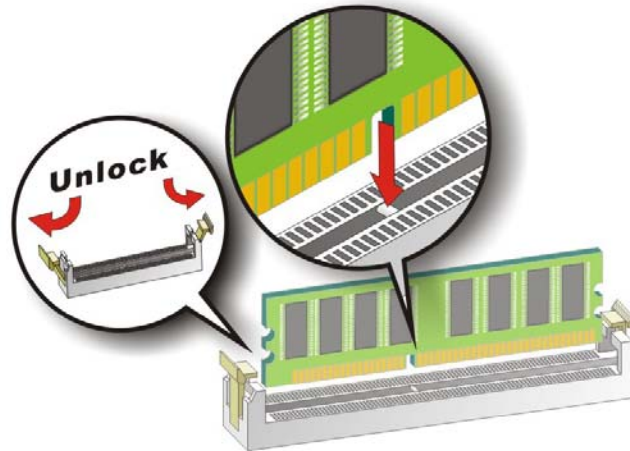

Figure 5-8: Installing a DIMM
To install a DIMM into a DIMM socket, please follow the steps below and refer to **Figure 5-8**.
Step 1: Open the DIMM socket handles. The DIMM socket has two handles that secure the DIMM into the socket. Before the DIMM can be inserted into the socket, the handles must be opened. See **Figure 5-8**.
Step 2: Align the DIMM with the socket. The DIMM must be oriented in such a way that the notch in the middle of the DIMM must be aligned with the plastic bridge in the socket. See **Figure 5-8**.
Step 3: Insert the DIMM. Once properly aligned, the DIMM can be inserted into the socket. As the DIMM is inserted, the white handles on the side of the socket will close automatically and secure the DIMM to the socket. See **Figure 5-8**.